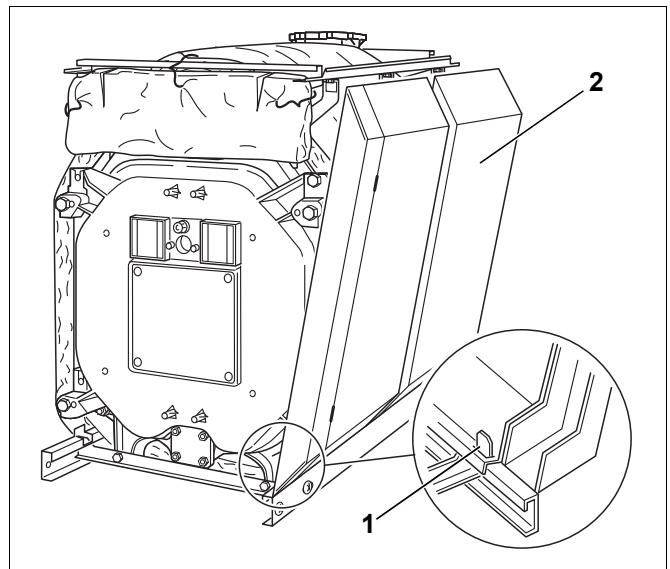

Fig. 50 Hook in the side panel components
- Hook the front side panels (Fig. 50, **[2]**) into the l.h. and r.h. bottom of the angled tabs on the plinth rails (Fig. 50, **[1]**), then push them at the top over the angled part of the longitudinal rails.